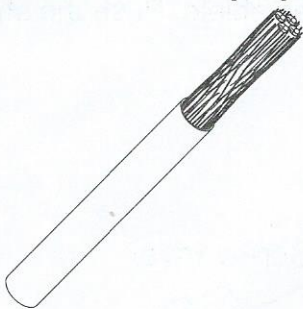

Fig.5
1) Strip the cable for minimum 4cm (Fig. 5)